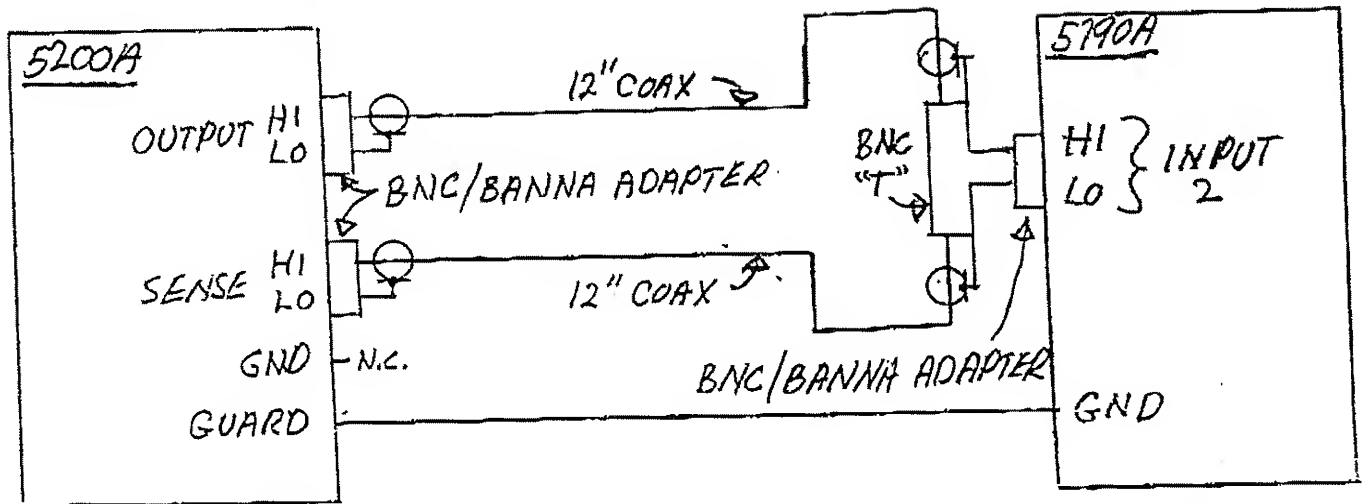

FIGURE 4-3a 1V, 10V, 100V OUTPUT ACCURACY
- Connect the equipment as shown in Figure 4-3a.
b. Connect the equipment as shown in Figure 4-3a.
- 4-77a. The following procedural sub-paragraphs deal with voltage amplitude and linearity for the 1V, 10V, and 100V ranges. The equipment should be connected as shown in Figure 4-3a, with both inner covers installed. Adjustments are made through the marked ports in the instrument compartment inner cover as shown in Figure 4-6. Perform the tests in sequence, insuring that the equipment set-up procedure in paragraph 4-28 has been performed prior to starting the test.